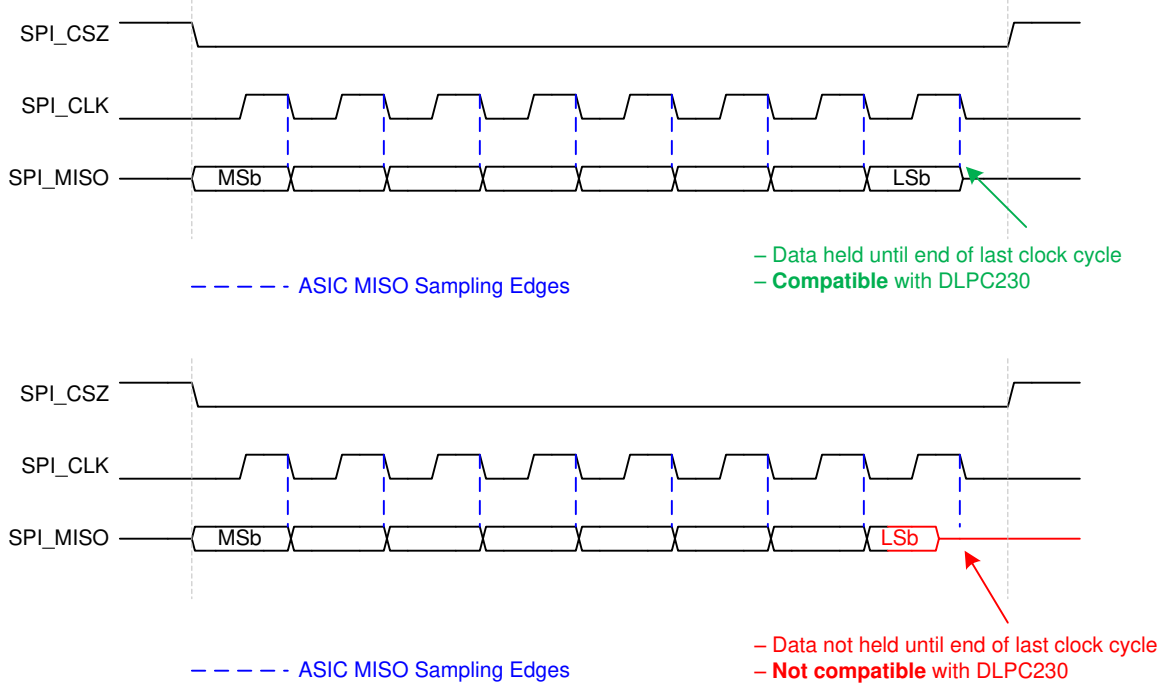

Figure 6-8. Flash Interface Data Capture Requirements
- (1) The DLPC230S-Q1 communicates with flash devices using a slight variant of SPI Transfer Mode 0 (that is, clock polarity = 0, clock phase = 0). Instead of capturing MISO data on the clock edge opposite from that used to transmit MOSI data, the DLPC230S-Q1 captures MISO data on the same clock edge used to transmit the next MOSI data. As such, the DLPC230S-Q1 Flash SPI interface requires that MISO data from the flash device remain active until the end of the full clock cycle to allow the last data bit to be captured. This is shown in Figure 6-8.
- (2) The actual maximum clock rate driven from the DLPC230S-Q1 may be slightly less than this value.